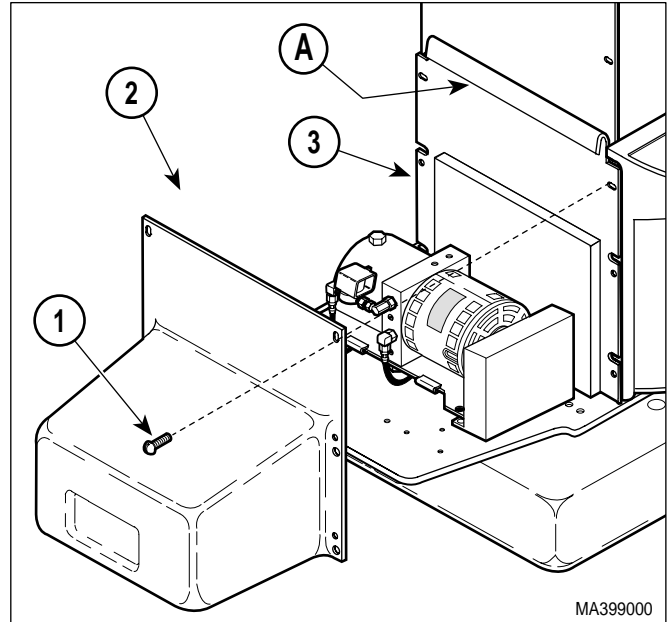

Figure 4-1. Motor Cover Assembly Removal / Installation
- (1) Unplug table power cord from outlet.
- (2) Remove six screws (1, Figure 4-1) and motor cover assembly (2) from back outer shroud (3).